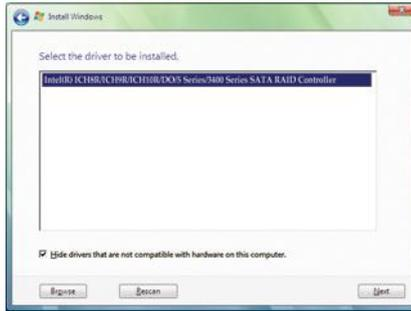

Figure 5
When a screen as shown in Figure 5 appears, select **Intel(R) ICH8R/ICH9R/ICH10R/DO/5 Series/3400 Series SATA RAID Controller** and click **Next**.